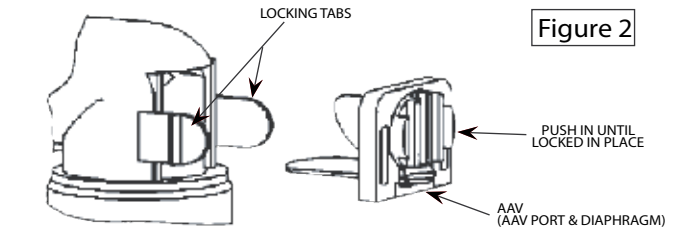

Figure 2
- c. Anti-Asphyxia Valve (AAV) (fig 2) snaps into the elbow of the swivel port assembly using the "locking tabs" for engagement. The function of the AAV is to allow the patient to breath room air when the CPAP/BiLevel machine is not operating or turned off.